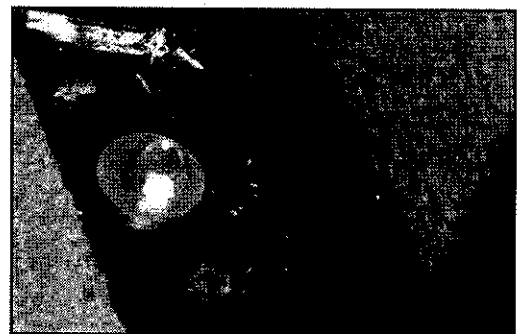

Figure 3
10. Using a right angle driver, fasten the sofa into place with new #10 screws and 1/4" flat washers (provided with the Kit). Verify the screws pass through the holes in the sofa frame and into the pilot holes in the floor. Use care to avoid stripping the screws. Tighten all screws. Verify that the sofa is secured to the floor and structural aluminum at all attachment points. See Figure 3.